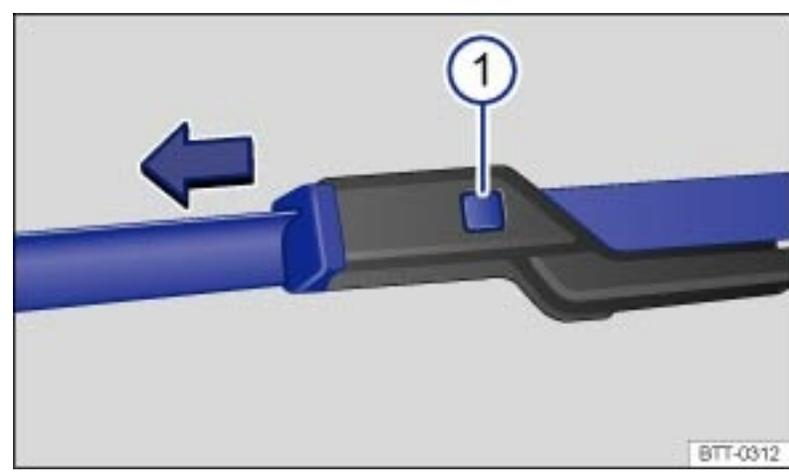

Fig. 196 Changing the windshield wiper blades.
- ▶ Press and hold the release button → Fig. 196 ① .